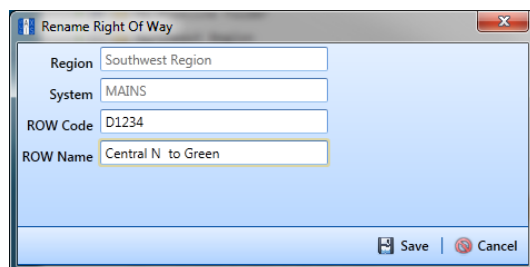

Figure 4-7. Rename Pipeline
- a Click **Rename** to open the *Rename* dialog box (Figure 4-7). Right-clicking the selected pipeline and selecting *Rename* in the shortcut menu also opens the dialog box.